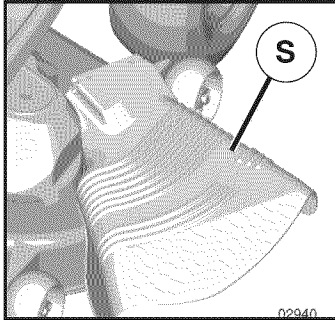

Fig. 12
CAUTION: Do not operate the mower without either the entire grass catcher, on mowers so equipped, or the deflector shield (S) in place (See Fig. 12).